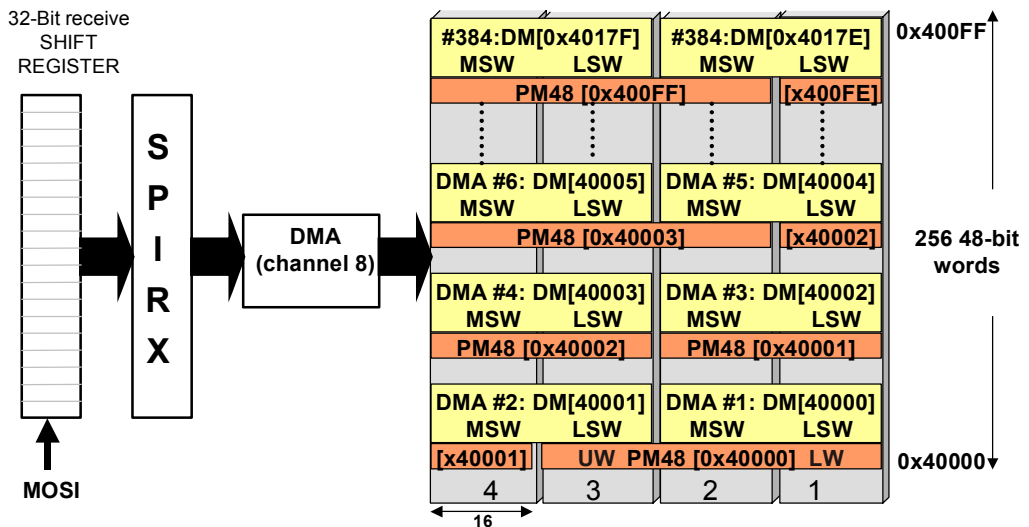

Figure 11-8. SPI Data Packing
The host initiates the booting operation by activating `SPICLK` and asserting the `SPIDS` signal to the active low state. The 256-word, boot-strapped instruction loader kernel is loaded 32 bits at a time, via the 32-bit SPI receive shift register (`RXS`). To properly upload 256 instructions (48-bit words), the SPI DMA initially loads a DMA count of 0x180 (384) 32-bit words which is equivalent to 0x100 (256) 48-bit words. The relationship between the 32-bit words received into the `SPIRX` register and the instructions that need to be placed in internal memory is described in the Figure 11-8.
The boot loader kernel supplied with the tools loads a combination of instructions with DMA into scratch locations and then writes the instructions to internal memory using the core via the PX register. The 256-word, boot-strapped instruction loader kernel is loaded 32-bits at a time, via the 32-bit SPI receive shift register, using a normal-word addressing scheme with two-column memory addresses. Figure 11-8 shows how SPI data is packed in internal memory.